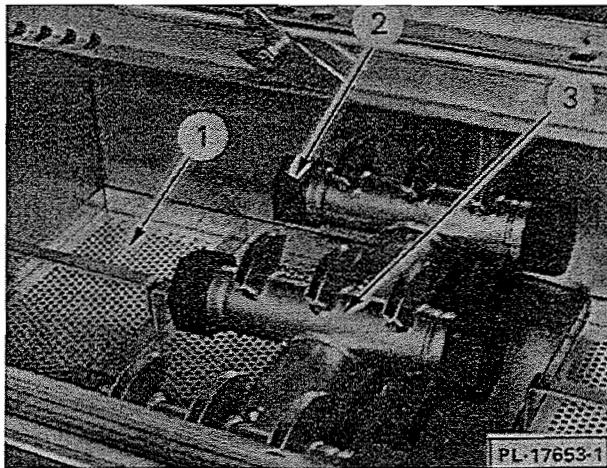

Fig. 6
Put the dishwasher strainer pans (1, Fig. 6) into position in dishwasher tank(s).
3. Remove wash arms (3, Fig. 6); remove wash arm end caps (2, Fig. 6); using a common silverware knife, push any nozzle obstructions into the wash arms; thoroughly flush the wash arms in a sink; replace wash arm end caps (a twisting action helps assure proper seating).